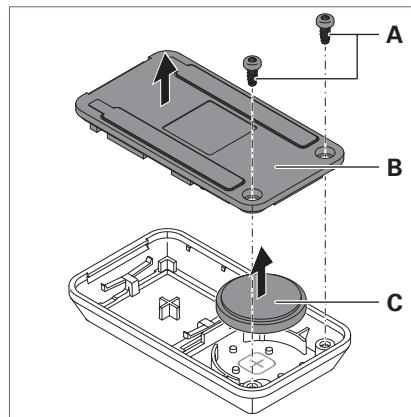

Fig. 35: Battery replacement.
- ▶ Unscrew the screws **A** from the rear panel **B** of the control element, see Fig. 35.